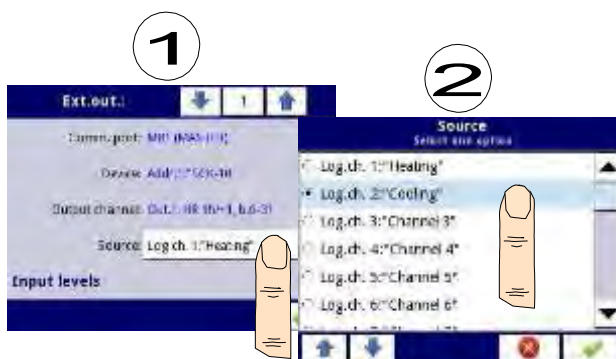

Fig. 7.95. Sample selection of Source for External output
- Source - this parameter allows to choose a source for external output from logical channel list (see Fig. 7.95),